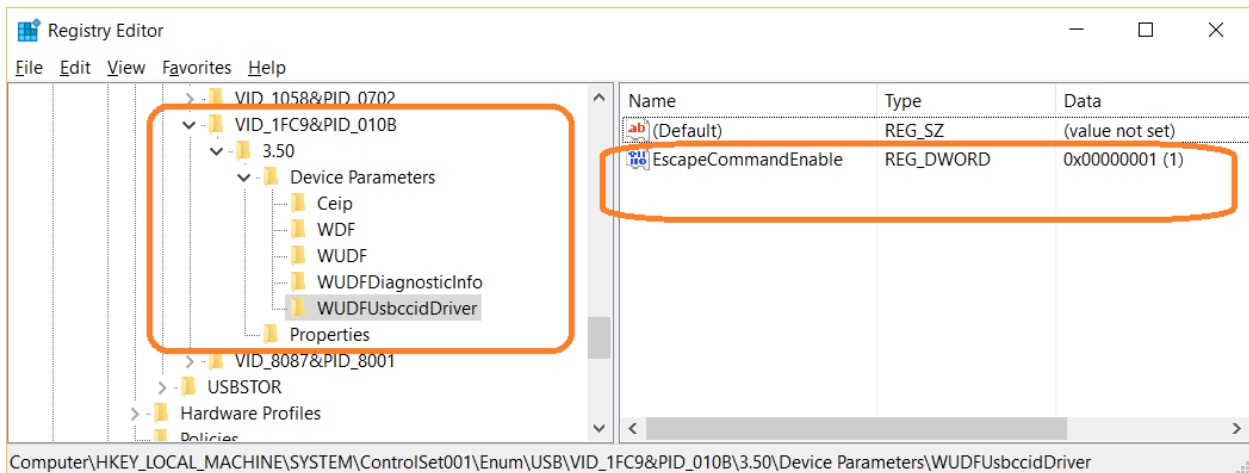

Figure 4
- > WUDFUsbccidDriver. (see *Figure 4*)
3 REG_DWORD EscapeCommandEnable has to be created and equal to 0x01 (see *Figure 4*)